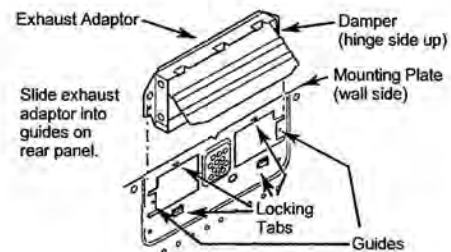

Figure 29
- Carefully guide the exhaust adaptor, now attached to the mounting plate, into the house duct. Before using the screws to attach the plate to the wall. This will assure proper alignment for installation. See Figure 29.
- Return to step 5, item 3 to continue. After completing the installation of the mounting plate, again check the rear damper for free movement to assure it will operate properly.